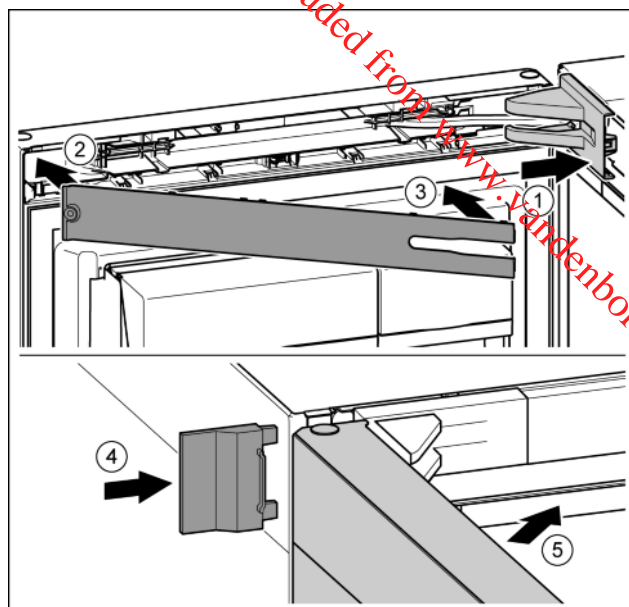

Fig. 40
- Position the cover and click into place, if necessary, push apart carefully. Fig. 40 (1)
- Put cover into position. Fig. 40 (2)
- Swivel cover and click into position. Fig. 40 (3)
- Push the external cover on. Fig. 40 (4)
- Close the upper door. Fig. 40 (5)